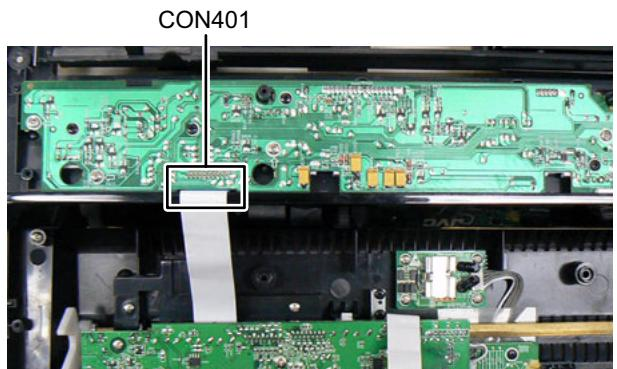

Fig.4
- (4) Disconnect the card wire from DVD MPEG board connected to connector CON401 of the Display board. (See Fig.4)